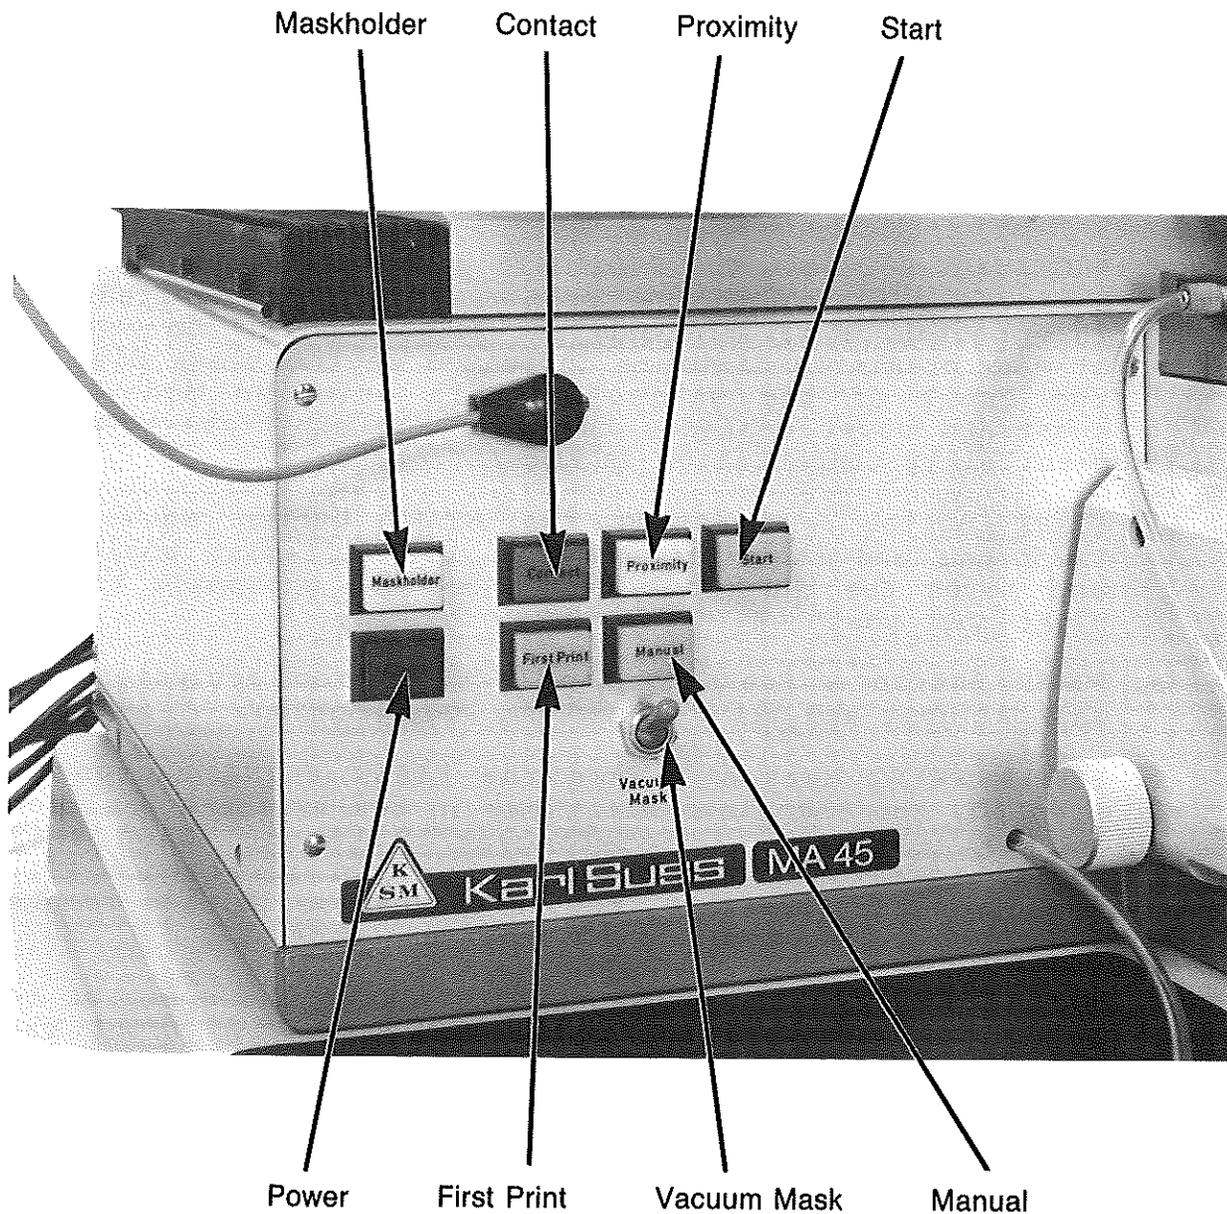

Figure 2-1 Front Left Control Panel
The front left control panel (Figure 2-1) contains the indicators and operating controls, including the CONTACT indicator light, the MASKHOLDER, PROXIMITY, FIRST PRINT, MANUAL, POWER, and START buttons and the VACUUM MASK toggle switch. The function of each of these is described in Section 2.1.1.
2.1.1 Front Left Control Panel (Please refer to Figure 2-1.)